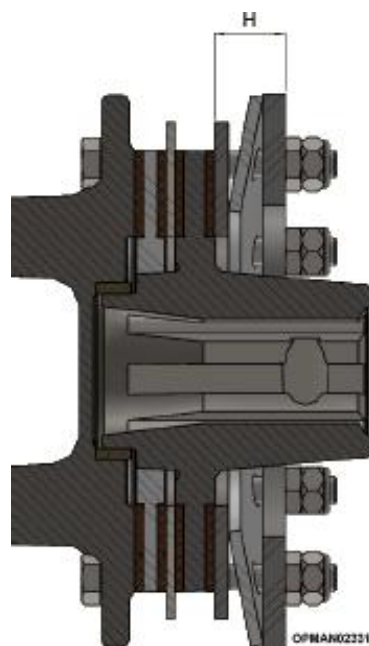

Figure 5.24 – Clutch Setting Dimension Guidance
- 5.4.1.9 Tight progressively the bolts (e.g. half a turn per time) in order to uniformly compress the Belleville spring to its required compression "h"; see Figure 5.24